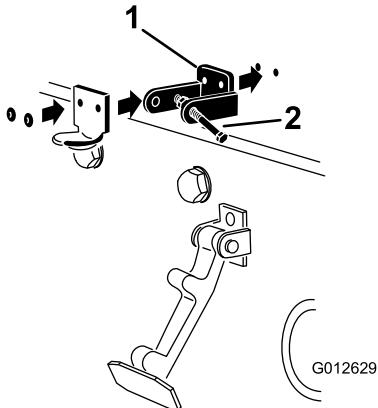

Figure 8
3. While aligning the mounting holes, position the CE lock bracket and the hood latch bracket onto the hood. The lock bracket must be against the hood (Figure 8). Do not remove bolt and nut assembly from the lock bracket arm.
5. Rivet the brackets and the washers to the hood (Figure 8).